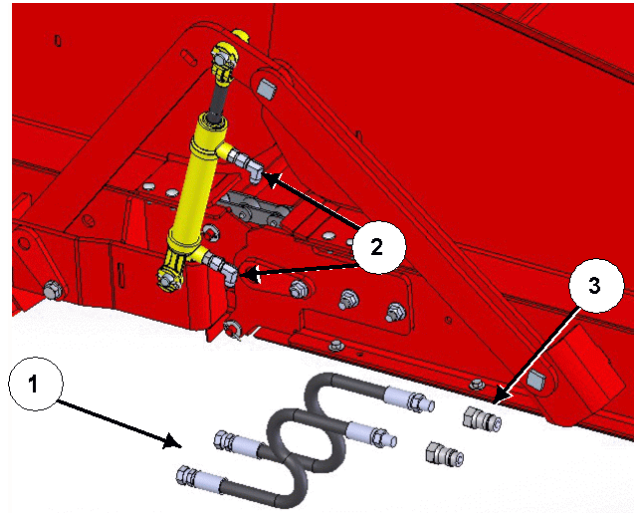

Figure 17: Attach the hydraulic hoses
19. Attach the $\frac{3}{8}$ " x 172" hydraulic hoses (1) to the restrictor fittings at the lower end (base) of the hydraulic cylinder (2), as per *Figure 17*.
20. Attach the hose couplings (3) onto the end of the hoses (1), as per *Figure 17*.